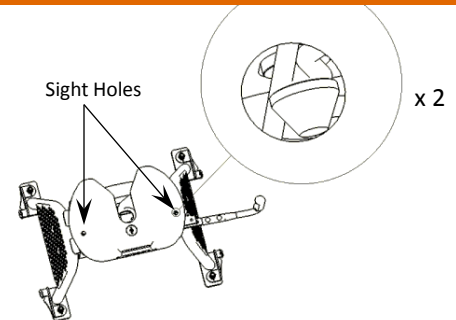

FIG. 7
2. Inspect through sight holes on top of head unit to make sure clips are assembled correctly, as shown in figure 7.